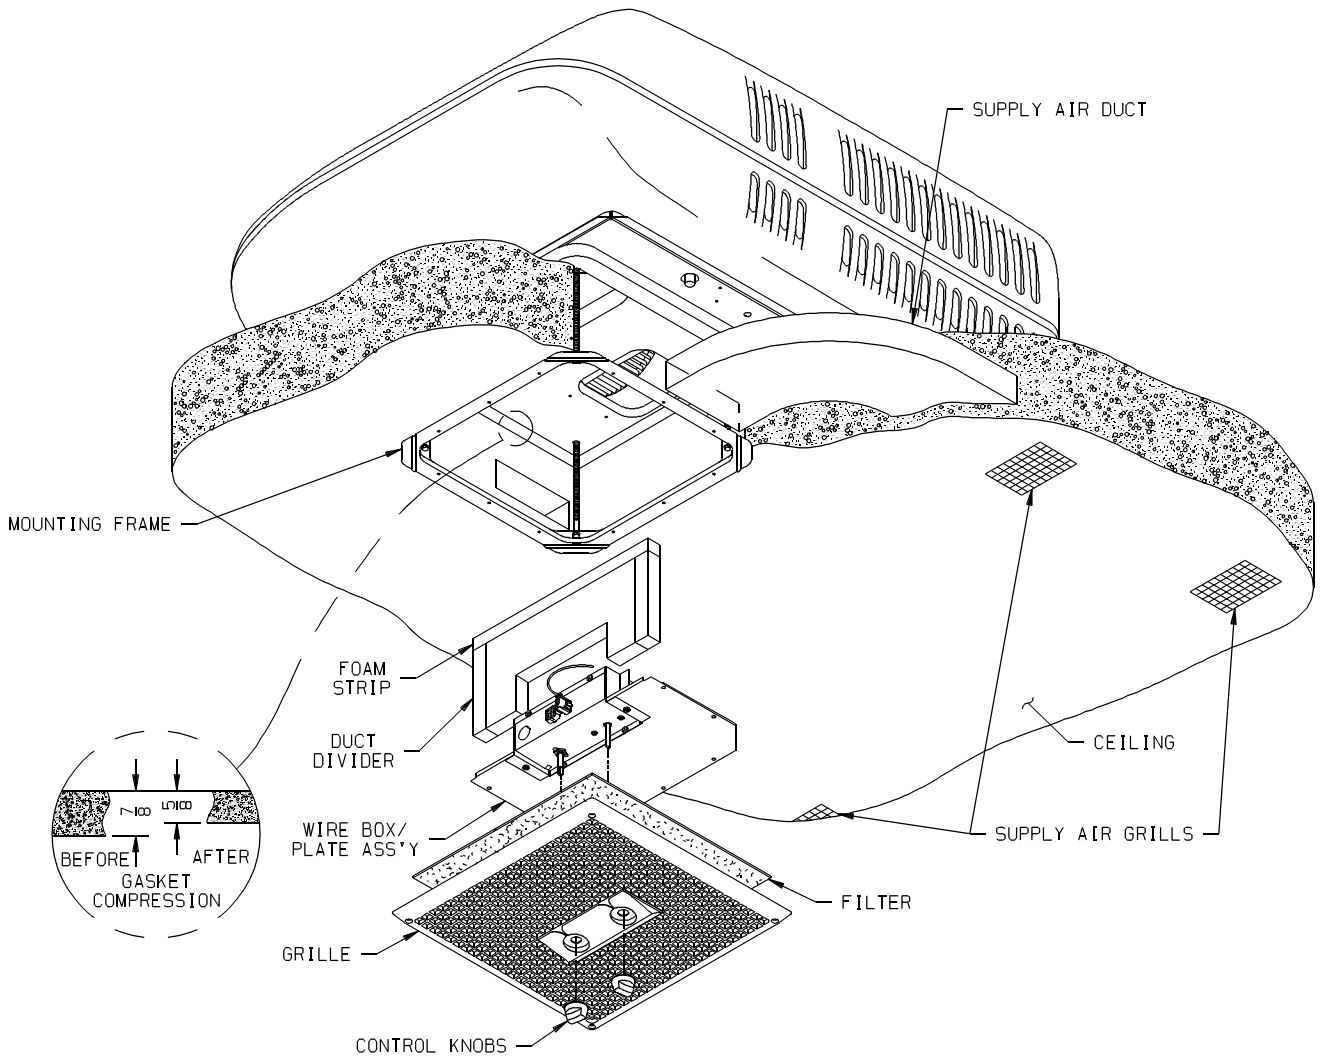

FIGURE 1
1. The field fabricated supply ducting must attach to both sides of the ceiling plenum. A minimum of two ducts are required, with one duct attached to each side of the plenum. See Figure 1.
2. Position the mount frame into the ceiling opening. See Figure 1.
3. Using the four bolts provided, secure the mount frame to the roof unit. The four mounting bolts are to be applied up through the bottom of the mount frame and into the bottom of the roof unit. See Figure 1.
5. Remove ceiling plenum electrical box. Retain box and two screws for reattachment. See Figure 1.